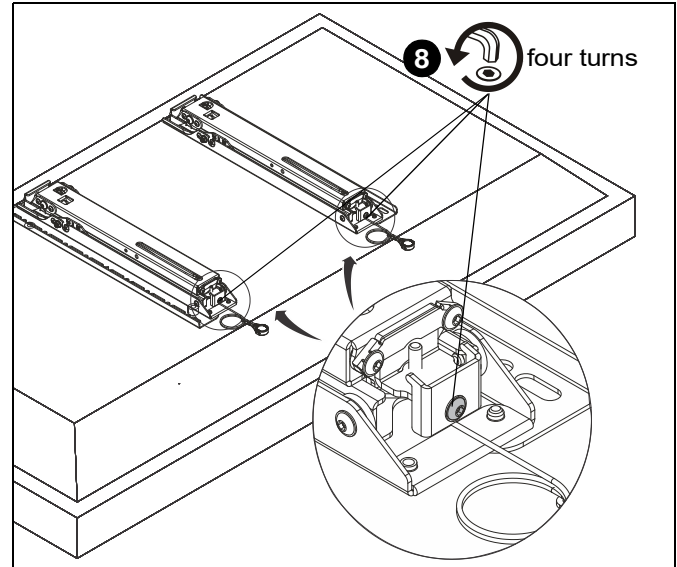

Figure 25
8. Loosen two button head cap screws at bottom of each interface bracket (A and B) at least four turns. (See Figure 25)